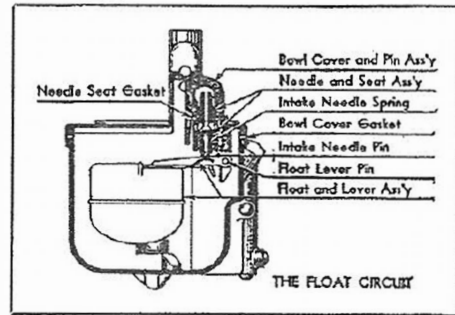

Fig. 2
A. Group all parts controlling the gasoline level. (Fig. 2.)